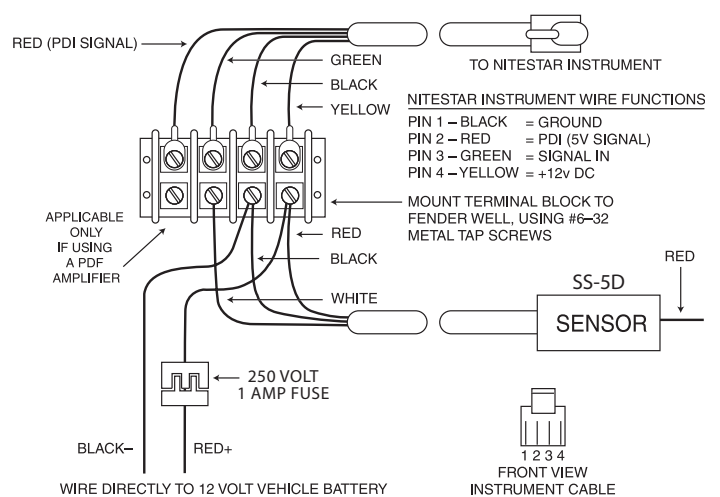

FIGURE 2
- STEP 3: Connect the new SS-5D electronic sensor to the terminal block as follows: The SS-5D has two cables exiting the plastic housing. Connect the shorter cable (3 wires - Red, Black and White) to the terminal block as shown in **FIGURE 2**.